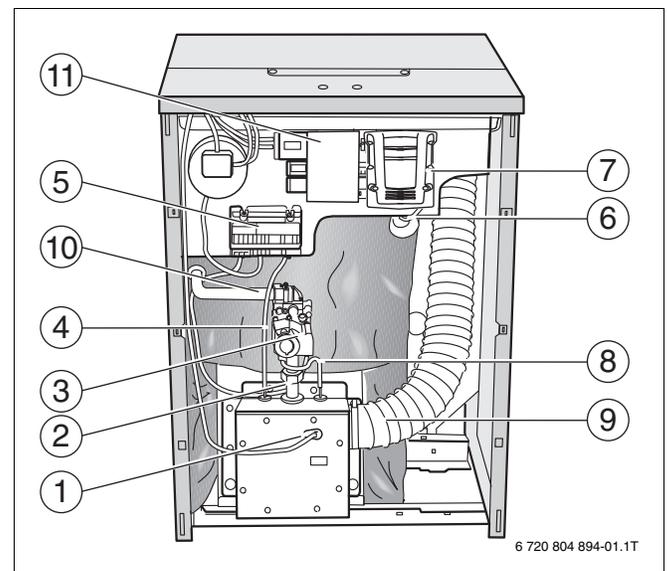

Fig. 3 Front view
14. Tie gas line (→ Fig. 3, page 5) with wire or cord (→ Fig. 3, page 5) (secure).
19. Release air supply hose (→ Fig. 3, page 5) and pull off burner box.